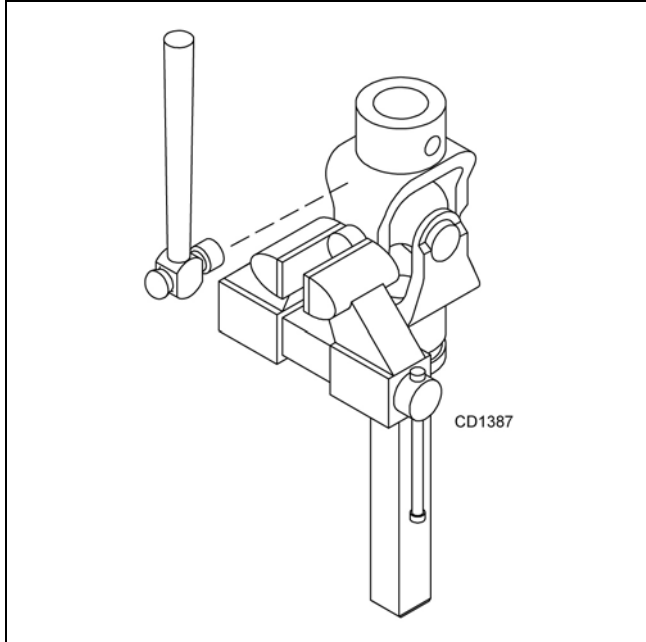

Figure 25. Remove Cups
3. Clamp cup in vise as shown in Figure 25 and tap on yoke to completely remove cup from yoke. Repeat Step 2 and Step 3 for opposite cup.